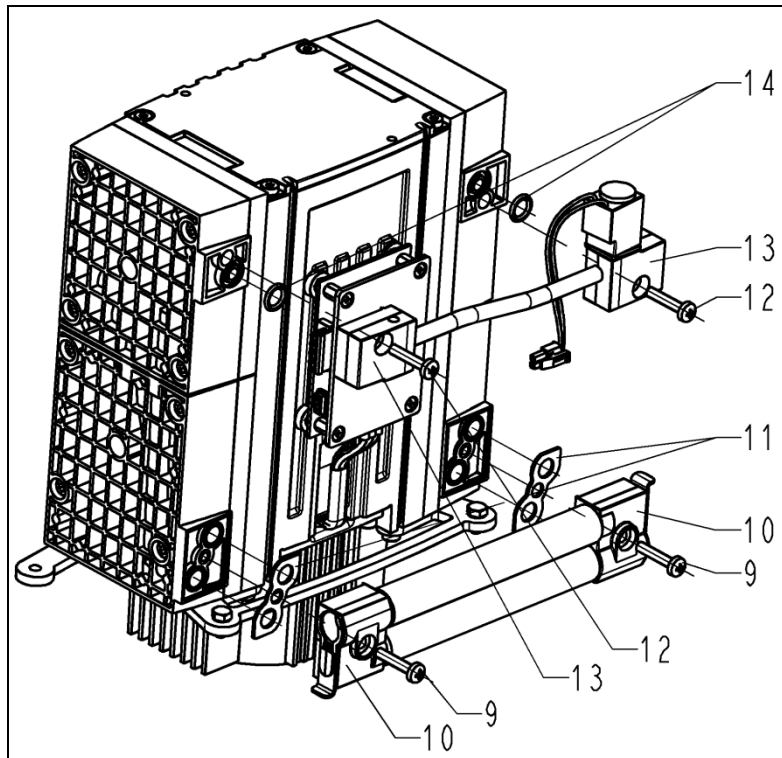

Fig. 20: Disassembling the head connections
1. Remove the head connection's (10) and (13) screws (Fig. 20/9) and (12) and remove the head connections.
2. Remove O-rings (14) and flat seals (11).
4. Insert O-rings (Fig. 20/14) and flat seals (11) in the grooves and recesses in the head plates.
To do this, manually tighten the head connections' attachment screws (Fig. 20/9 and 12).